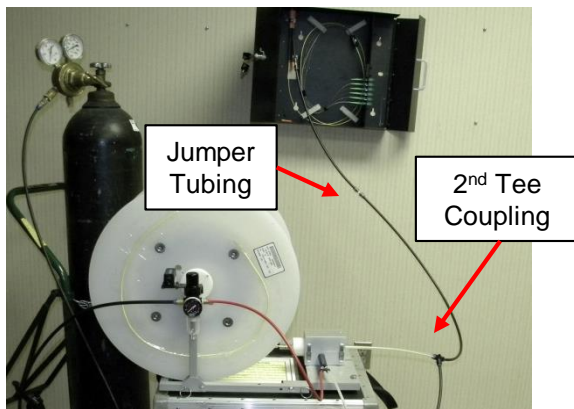

Figure 18
8.11 To span distance between Blowing Head and the entry point , connect an appropriate length of Installer-provided 8mm jumper tubing and a Tube Coupling between Second Tee Coupling and tube / tube cable scheduled to receive fiber bundle. Jumper tubing length must be determined on site. **See Fig. 18.**